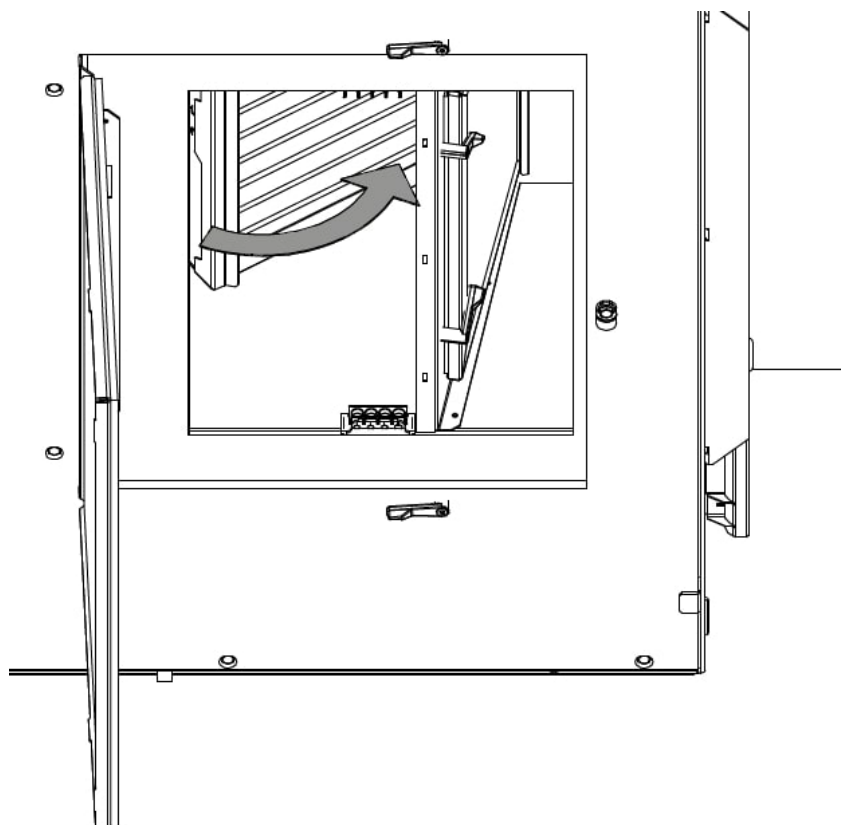

Figure 17: Close the filter hinge
8. Close the filter hinge, see Figure 17.